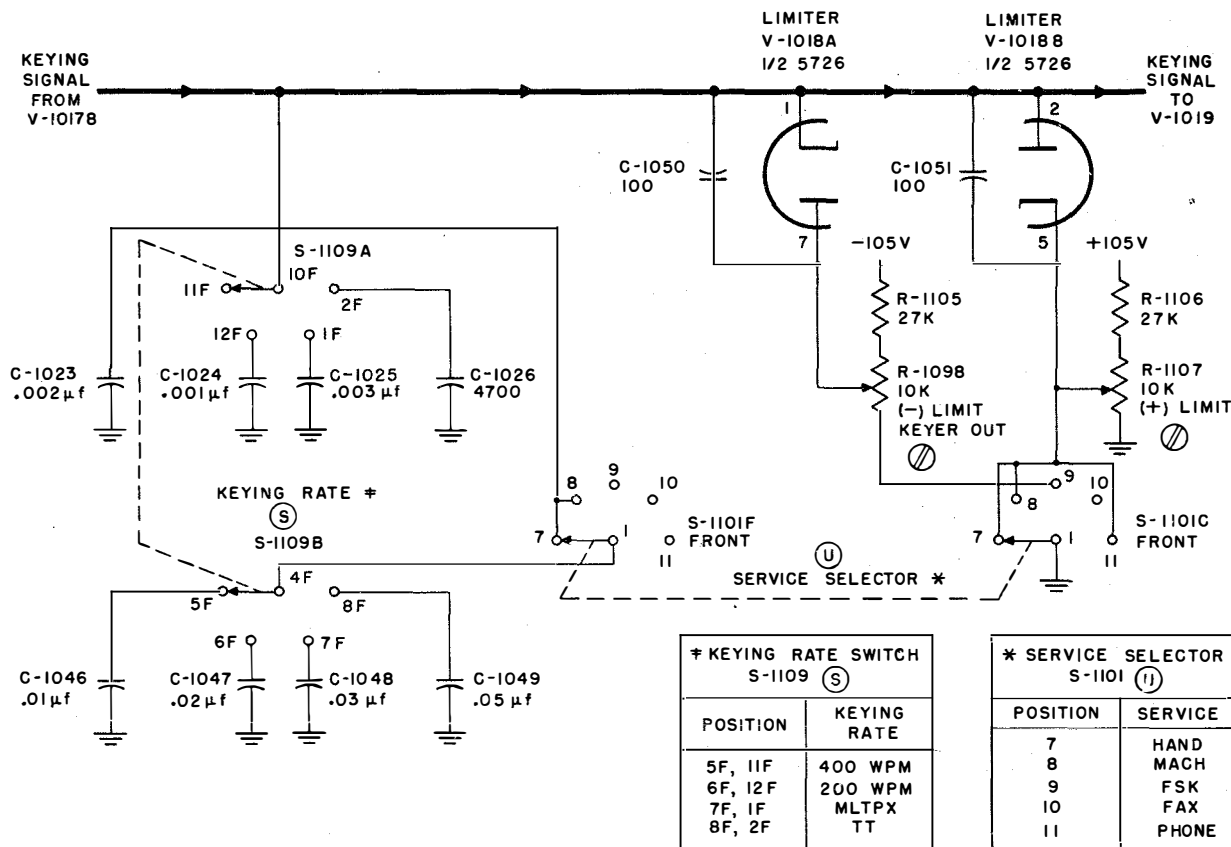

Figure 2-84. Limiter V-1018, Simplified Schematic
(6) **LIMITER V-1018.**—The keying signal from V-1017B, which is +25 volts for mark and -30 volts for space, is delivered to the limiter, V-1018A and V-1018B (figure 2-84). The keying signal is applied across a value of capacitance that is selected by the KEYING RATE switch (S), S-1109. The time constant involved in charging and discharging this capacitance gives the required rise and decay time to the keying signal waveshape. The faster the keying rate, the shorter is the decay and rise time, hence the smaller the value of capacitance. For any given keying rate, the decay and rise time of the pulses when the transmitter is in either HAND or MACH, c-w transmission should be longer than for FSK in order that the bandwidth of the side bands transmitted be kept to a minimum. Therefore, in HAND and MACH positions of the SERVICE SELECTOR (U), a second set of waveshaping capacitors comprised of C-1046, C-1047, C-1048, and C-1049 is connected in parallel, to lengthen the time constant, with the set of capacitors comprised of C-1023, C-1024, C-1025, and C-1026. The connection is made through S-1101F front contacts 7 and 1 for HAND or contacts 8 and 1 for MACH operation. Table 2-17 shows the value of capacitance and the capacitors employed for the various services and the different keying rates.